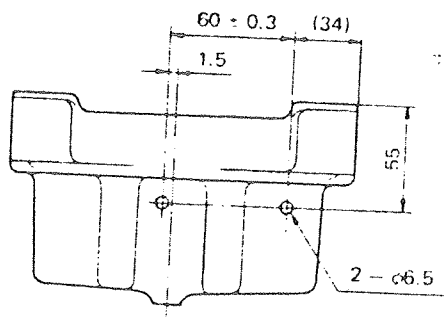

Fig. 30
- 1) First drill two holes (6.5 mm in diam.) on oil pan for installation. Refer to Fig. 30 for details.